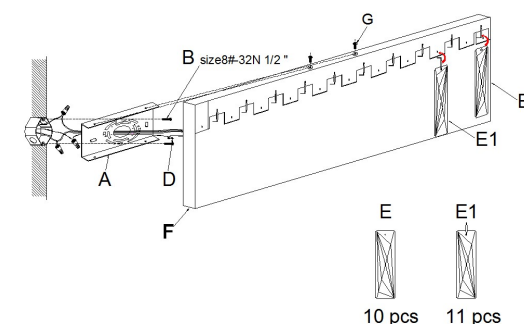

Fig.2
#### CONNECTING THE WIRES (Fig. 2)
5. Pass the black/white and bare copper wires through the opening of the mounting plate (A). Connect the electrical wire as shown in figure 2, making sure that all wire connectors are secured. If your junction box has a ground wire (green or bare copper), connect the ground wire from the fixture to it. Otherwise connect fixture ground wire directly to the mounting plate (A) using the green screw (D) provided. Tuck the wire connections neatly into the junction box.